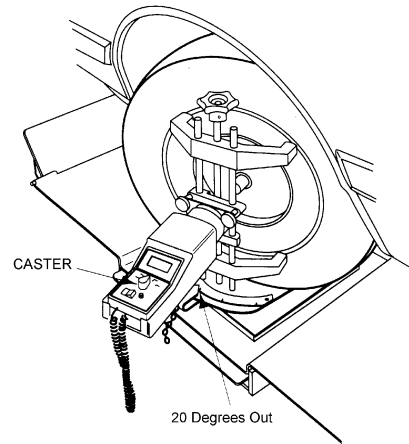

Figure 16
- 1) With the Electronic Gauge mounted on the left front wheel clamp, turn the left front wheel outward at the front for a 20 degree reading on the radius gauge. (See Fig. 16)